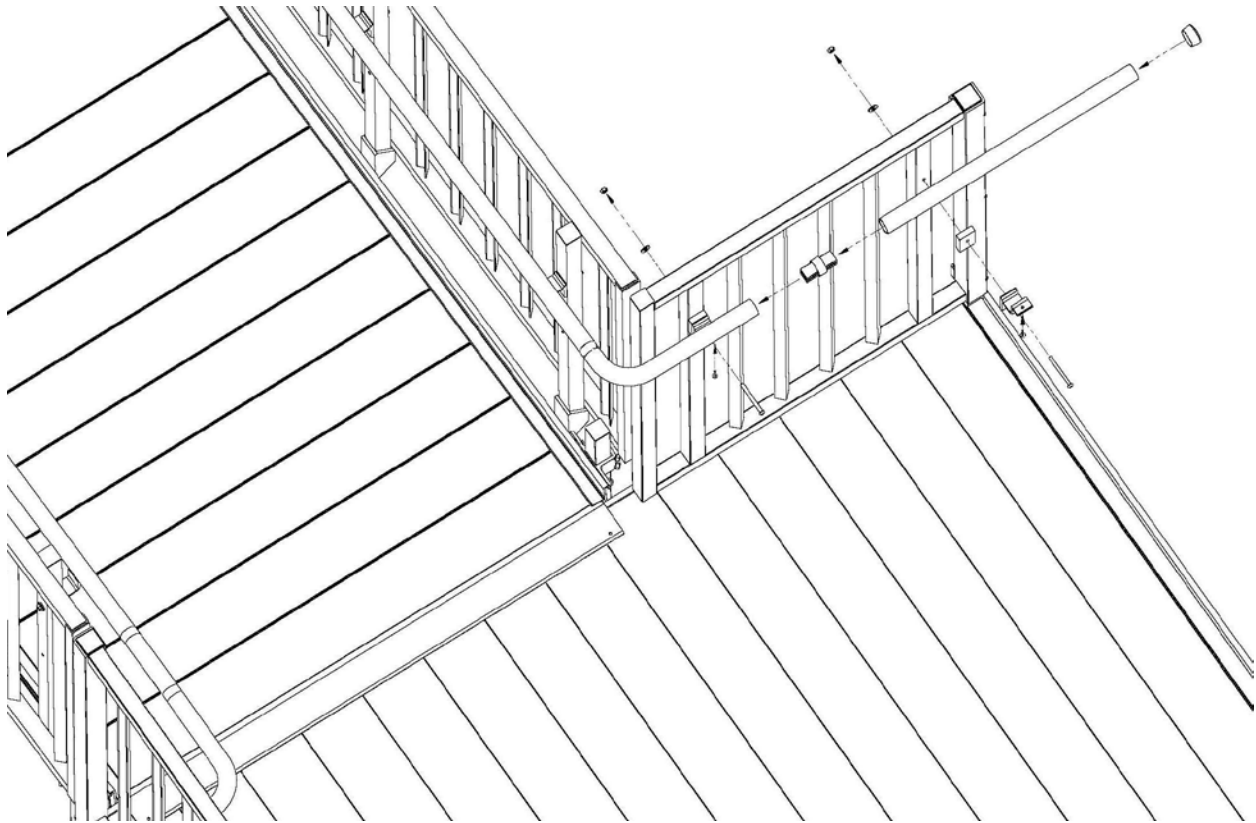

Fig. 5
- 3.3 Using another ring joiner, connect the handrail extension stub (provided with the guard filler sections for the 5' x 7' and 5' x 8' platforms) to the elbow. Level the handrail extension stub and tighten the joiner setscrews (Fig. 5).